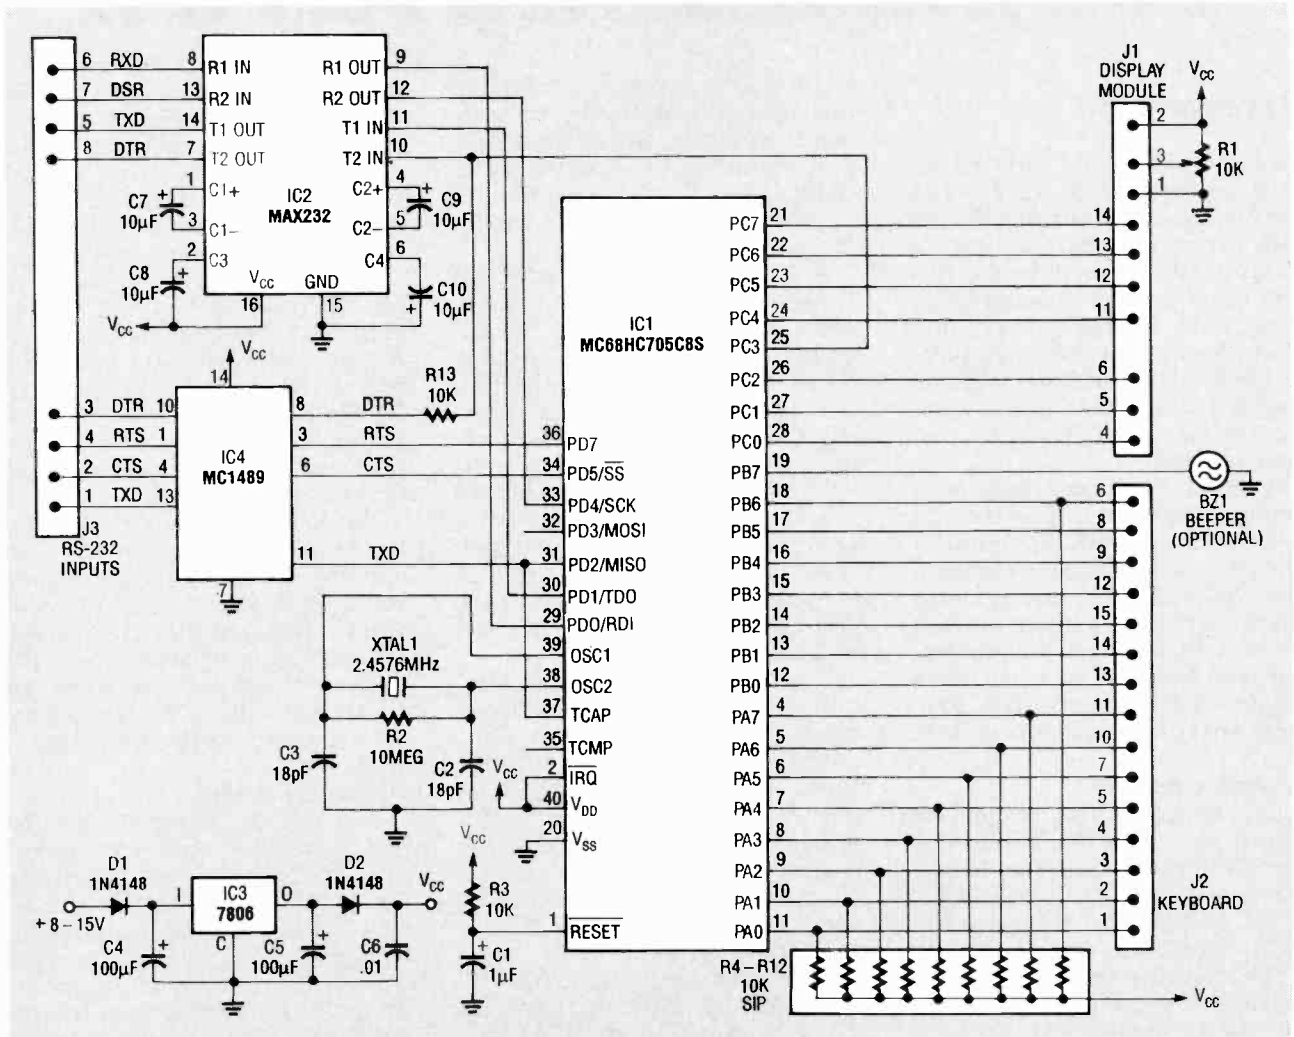

FIG. 1—SCHEMATIC OF THE TERMINAL/MONITOR. The keyboard is a surplus unit from a TI 99/4 computer.
**FIG. 1—HALF-WAVE VOLTAGE DOUBLER.** During the first half-cycle (a), D1 conducts, D2 cuts off, C1 charges to 170 volts peak, and C2 discharges through  $R_L$ . For the second half-cycle (b), the input polarity is reversed, and both the input and C1 are in series, producing 340 volts peak. Now D1 cuts off while D2 conducts, and the current divides between C2 and  $R_L$ ; the cycle then repeats.
built-in serial port, a second one has been implemented in software. However, the second port still requires a  $\pm 12$ -volt RS-232 interface. The schematic is shown in Fig. 1, and the wiring diagram is shown in Fig. 2.